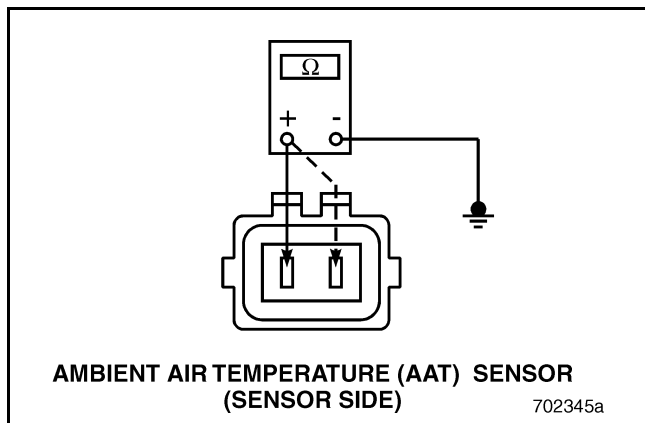

Figure 82
3. Check for continuity between either pin of the AAT Sensor and a good ground (see Figure 82).